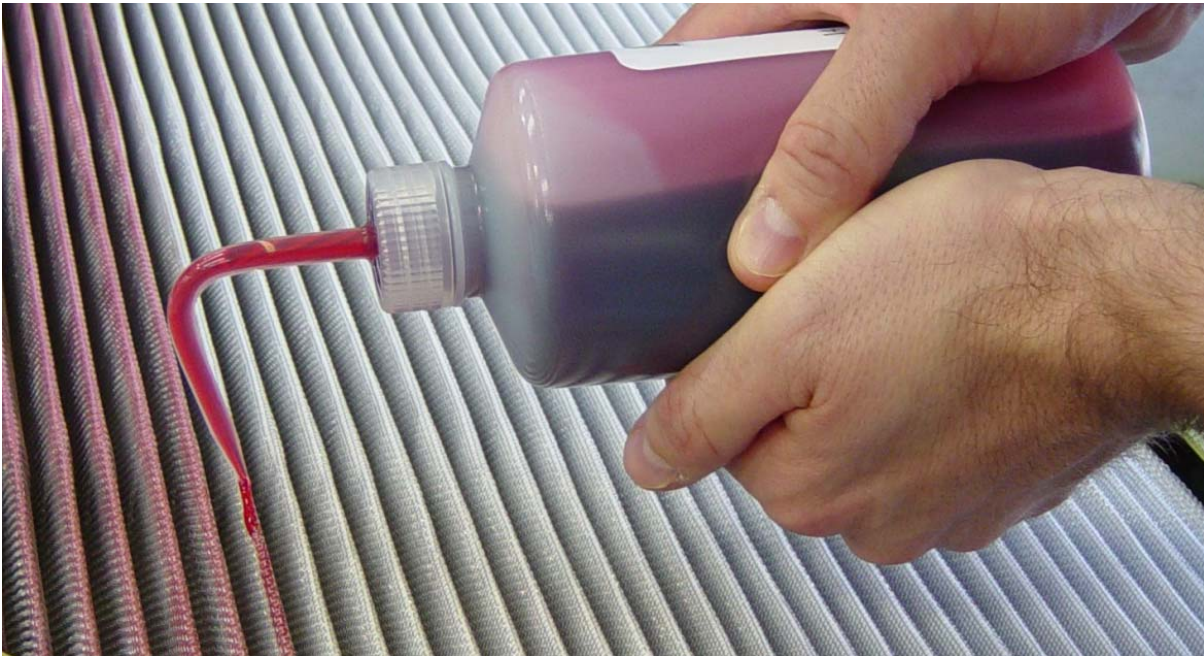

Figure 7-1: METHOD FOR OILING FILER MEDIA
- a. The filter will not function properly if other types of oil are used. AFS Air Filter Oil is a unique blend of mineral and organic oil base stocks and special polymers that form a very efficient “tack barrier”. Red dye is added to show areas of oil application. Do not use transmission fluid, any kind of motor oil, or diesel fuel to oil the AFS filter. Do not use “WD-40,” “LPS,” or any other type of lightweight spray lubricants to oil the AFS filter. Any of those products will damage the filter or degrade its filtering ability. A squeeze bottle allows for the controlled application of a specific amount of oil to the filter (See Figure 7-1).